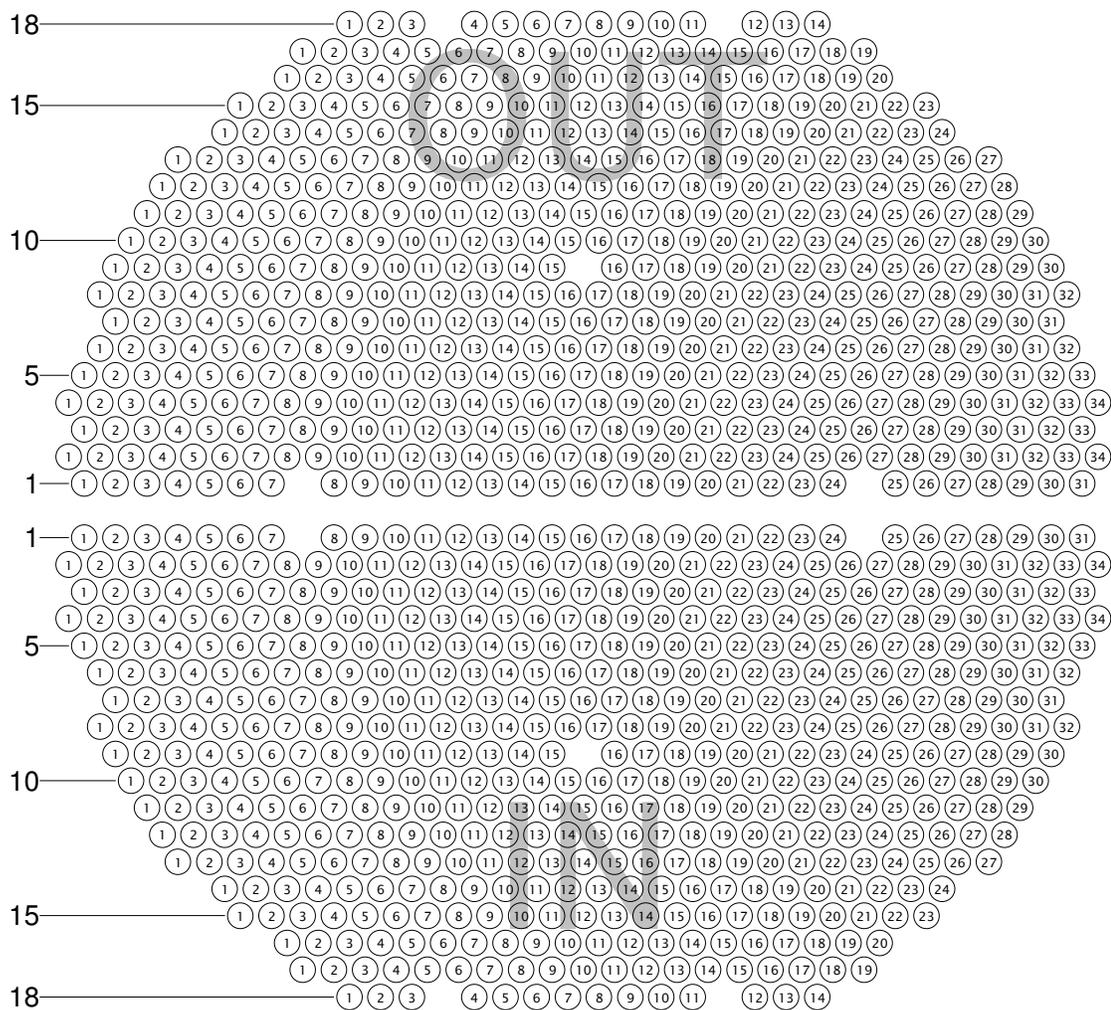

Figure 58. Tutorial Component (FWH3A)
For this tutorial, we will create a U-tubed feedwater heater showing both halves (legs) of the tube bundle. The intent is to inspect only the straight-lengths on each leg and we will setup the component file accordingly. Figure 58 shows the component that we'll build during this tutorial.
To build the component shown in Figure 58:
A building grid now appears based on the settings in the *Group Parameters* dialog. We'll now enable the group of tubes that exist in the lower half (inlet pass) of the feedwater heater. A printout of the page containing Figure 58 will be helpful for the remaining steps
- STEP 1:** Look at Figure 58. Counting the blank spaces in the first row on the lower half (IN), decide on the total number of tubes in row #1. You should come up with **33**.
- STEP 4:** Look at Figure 58 again. Decide on the total number of tubes in row #2. You should come up with **34**.
- STEP 9:** Click *OK* on the *Auto Tick Param* dialog. Row ticks now appear on every 5th row of the section, plus the *first* and *last* rows. Compare the tubesheet map on-screen to the lower half of Figure 58.